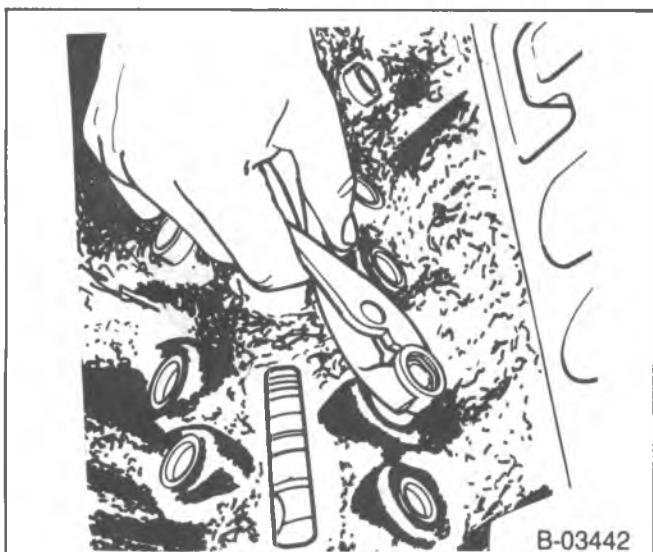
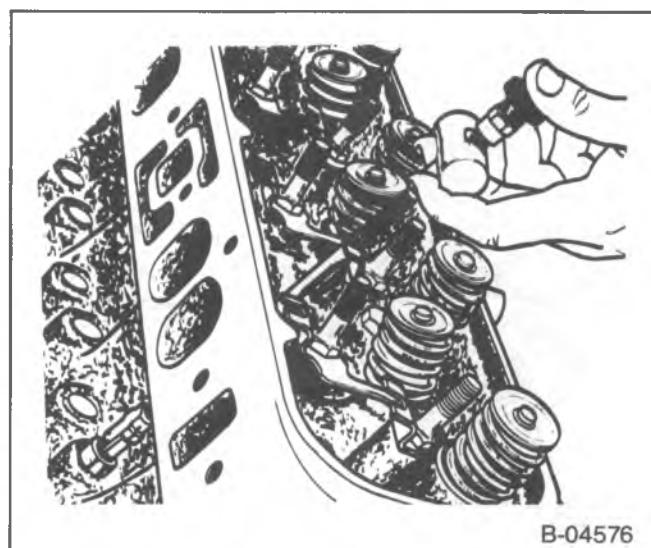

Figure 10—Removing the Hydraulic Lifter
Figure 11—Removing the Hydraulic Lifter (Typical)
1. Nuts (6), balls (8), rocker arms (7), and pushrods (9).
2. Lifters (10).
- A stuck lifter can be removed using J-3049 (figure 10) or J-9290-01 (figure 11).